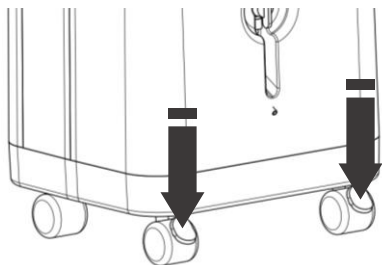

Figure 1.4
Step 1: Position product in place and press down on the locking mechanism on **both wheels**. Shown in Figure 1.4.